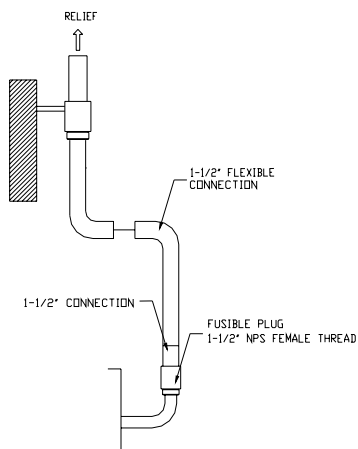

Fig. 1-7 Fusible Plug Relief Piping
3. Install pipe hangers where needed to be sure no weight or stress is placed on the fusible plug. (Fig. 1-7)